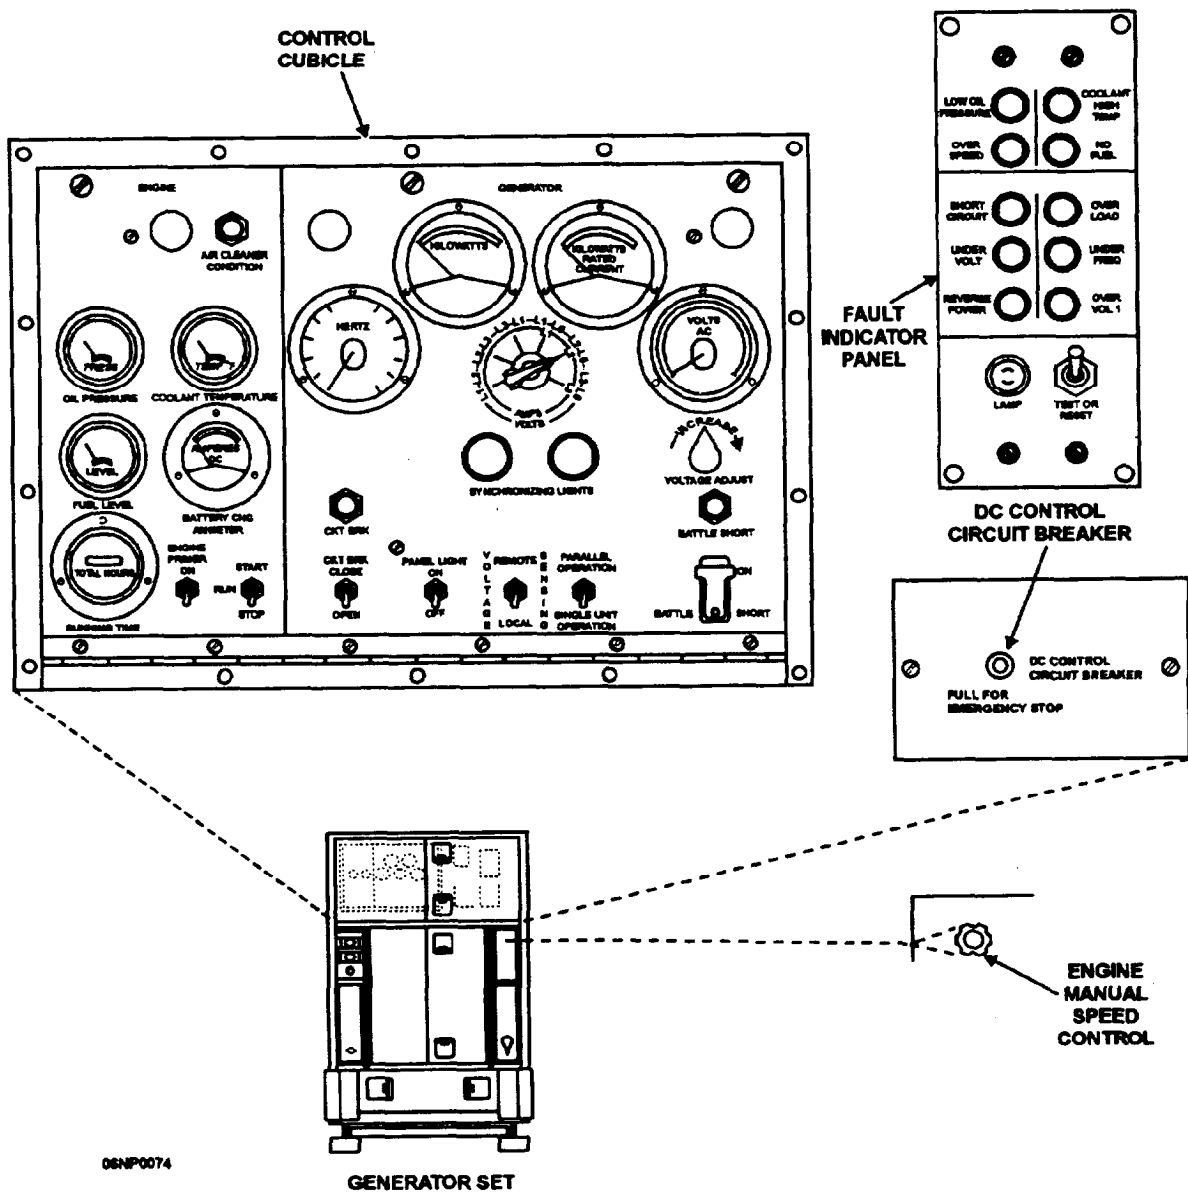
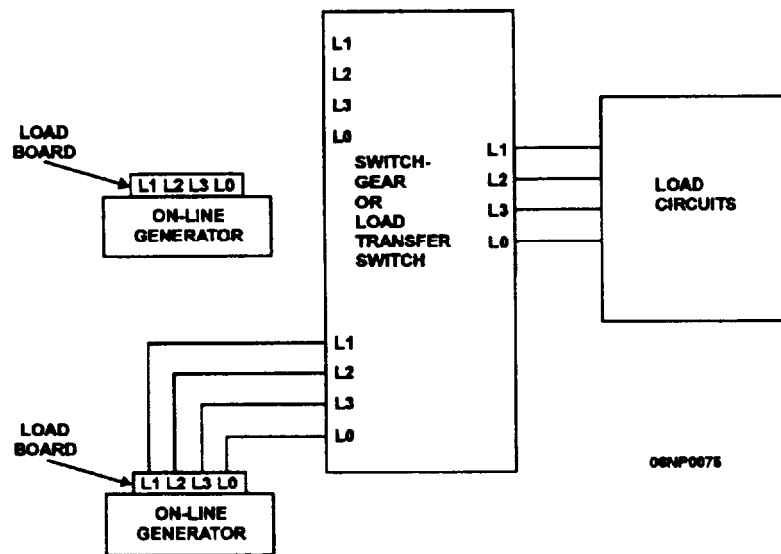

Figure 3-19.—Control cubicle, controls, and indicators.
Figure 3-20.—Parallel operation connection diagram.
NOTE: Refer to figure 3-19 for the CONTROL CUBICLE, FAULT INDICATOR PANEL, DC CONTROL CIRCUIT BREAKER, and ENGINE MANUAL SPEED CONTROL. Notice that the control
1. Ensure that the PARALLEL OPERATION-SINGLE UNIT OPERATION switch (fig. 3-19) is set to SINGLE UNIT OPERATION.
**NOTE:** These procedures assume that one generator set is on line (operating and connected to the distribution feeder lines through the switchgear). The set that is to be paralleled is designated the incoming set (fig. 3-20).
SYNCHRONIZING LIGHTS (fig. 3-19) will bring the phase and frequency into exact agreement. As the phase and frequency approach the same value, the SYNCHRONIZING LIGHTS will gradually turn on and off. When the blinking slows to a rate of once per second or slower, close the main circuit breaker of the incoming set while the SYNCHRONIZING LIGHTS are at a point of being dark. The phase sequence relates to the order in which the generator windings are connected. If the phase sequence is not correct, the SYNCHRONIZING LIGHTS will not blink on and off together. When the incoming set is first connected to the load through the appropriate switchgear (fig. 3-20), you should observe one of four occurrences. When the phase sequence, voltage, frequency, phase, and engine performance are the same, the changeover will be smooth with only the slightest hesitation in engine speed; if each output is slightly out of phase, one of the engines will shudder at the point of changeover; if the phase sequence or voltage levels are incorrect, the reverse power relay will trip on one of the generator sets and open its main circuit breaker contactors; if the incoming generator set loses speed significantly or almost stalls, the incoming engine may be defective.
Refer to figures 3-19 and 3-20 to set up the generator sets for parallel operation.
1. Connect the incoming set, as shown in figure 3-20.
Refer to figure 3-19 while following the procedure for removing a generator set from parallel operation.
Refer to figure 3-19 as you study this section.